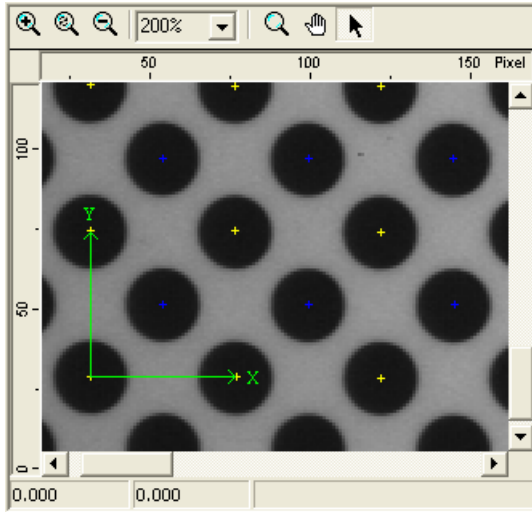

Figure 82 Zoom-in on the Coordinate Marker in the Calibration Dialog
9. Zoom in at the lower left corner of the display. The green coordinate system marker in the bottom left of the target displayed, as in Figure 82. Note that this coordinate system is displaceable programmatically or with the mouse; leave it as is for this tutorial.